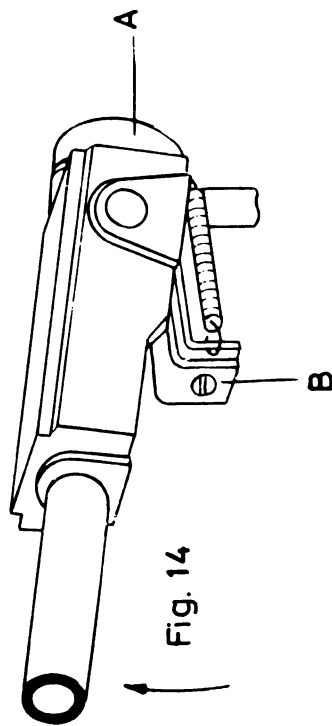
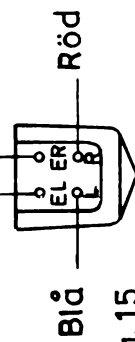

Fig. 14
Fig. 15
OBS! DE HORIZONTELLA LAGREN BESTÅR AV ÄDELSTEN, OCH FÖRSIKTIGHET SKALL IAKTTAGAS OM LAGREN SKULLE BEHÖVAS JUSTERAS INÅT. VID SÅDAN JUSTERING TAG BORT FJÄDRARNA OCH KÄNN EFTER ATT ETT ABSOLUT MINIMUM AV GLAPP FINNS. DÄREFTER LÅSET DET LAGER SOM JUSTERATS MED LÅSLACK. NÅLTRYCKSKRAFTEN JUSTERAS MED SKRUVEN (B) FIG. 14.
SEDAN TONARMEN LOSSATS FRÅN SITT BAKRE FÄSTE GENOM UTSKRUVNING AV SKRUVEN (A) FIG. 14, INKOPPLAS NÅLMIKROFONEN I ENLIGHET MED FIG. 15 OCH FASTSKRUVAS, VAREFTER TONARMEN ÅTER FASTSÄTTES.
NÅLTRYCKSKRAFTEN 4 POND INSTÄLLES DÄREFTER MED SKRUVEN (B) FIG. 14 OCH AVLÄSES PÅ EN INDIKATORKLOCKA I DET ÖGONBLICK DÅ KONTAKTEN MED SKIVSPÅRET UPPHÖR. (MÄRKS BÄST UNDER SPELNING).